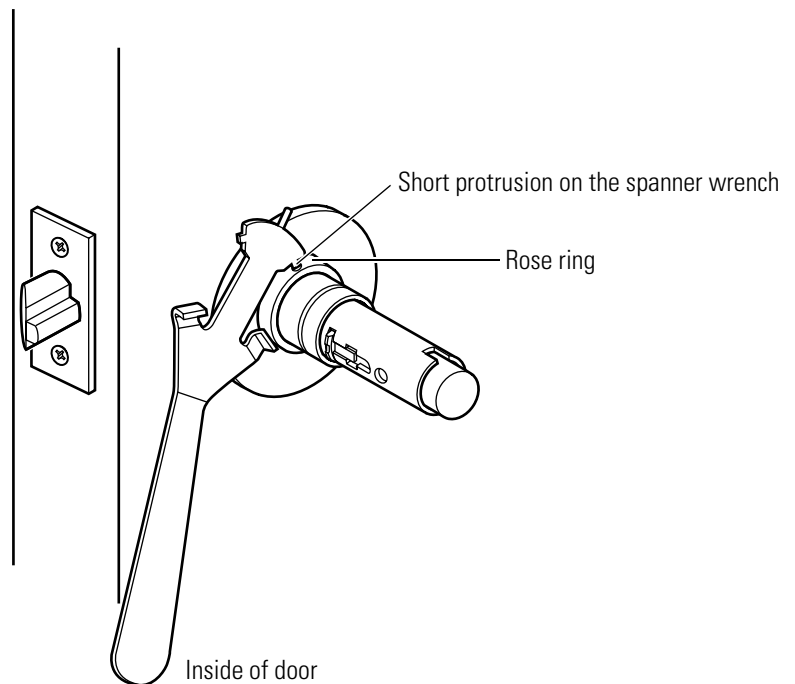

Figure 3.7 Removing the inside rose ring with the spanner wrench
2. Insert the short protrusion on the spanner wrench into the hole on the rose ring and rotate it until you can remove the rose ring, as shown in Figure 3.7.